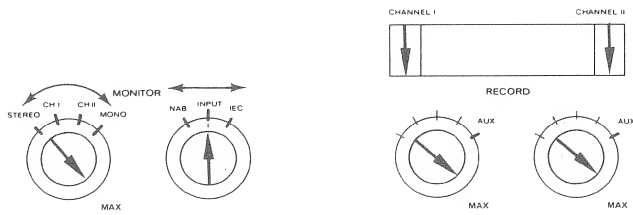

Fig. 6.7–85
- Set controls per fig. 6.7 –85